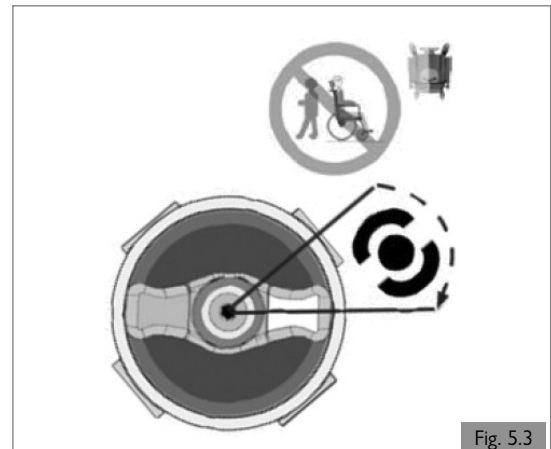
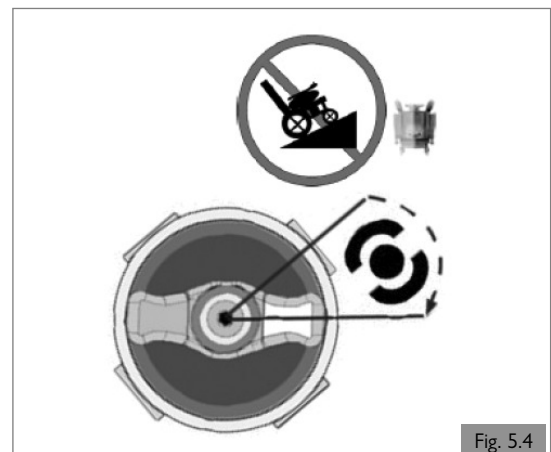

Fig. 5.3
Fig. 5.4
2. For disengaging the motors (Fig. 5.3 and Fig. 5.4).